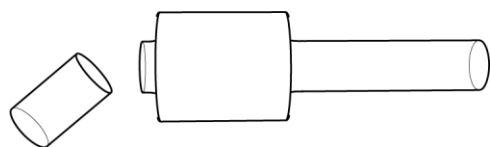

Figure 1: Cutting the Sep Pak to size
1. Cut off the exit tube of the C18 Sep-Pack chromatography cartridge (see Figure 1).